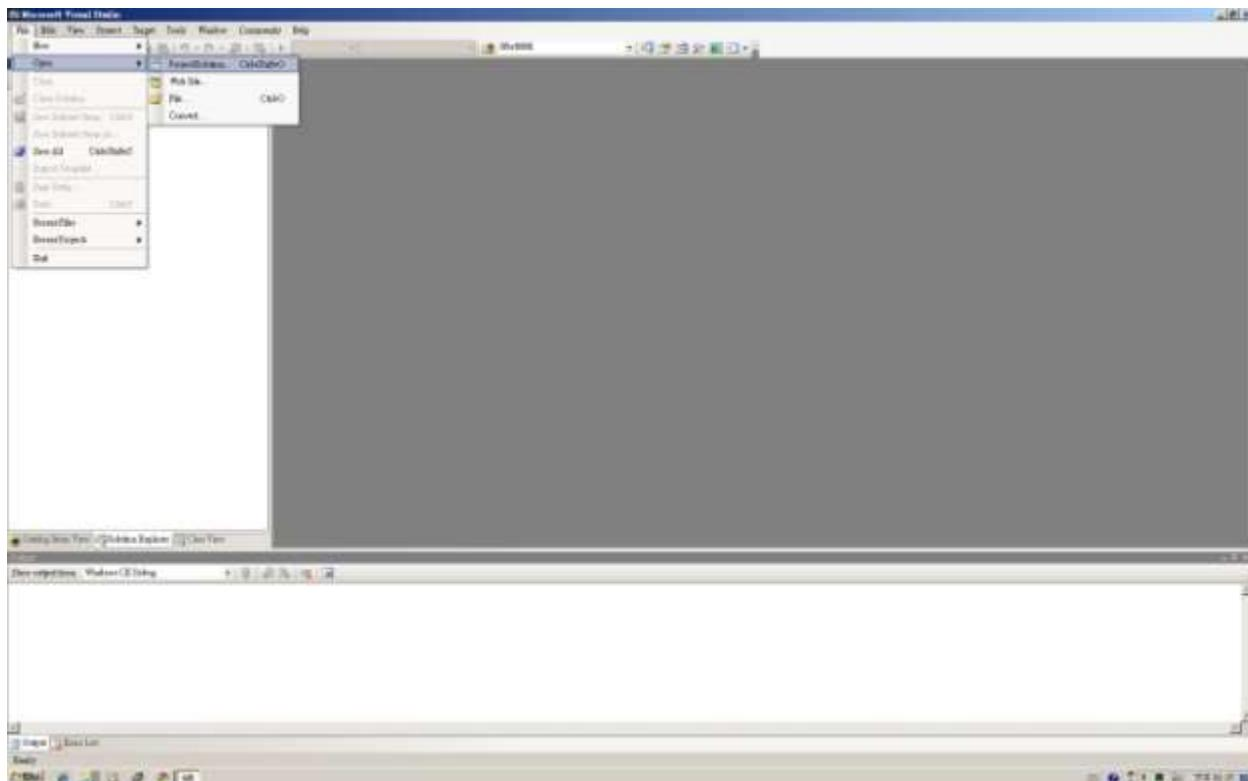

Figure 89
- Click “File → Open → Project Solution” (See Figure 89)